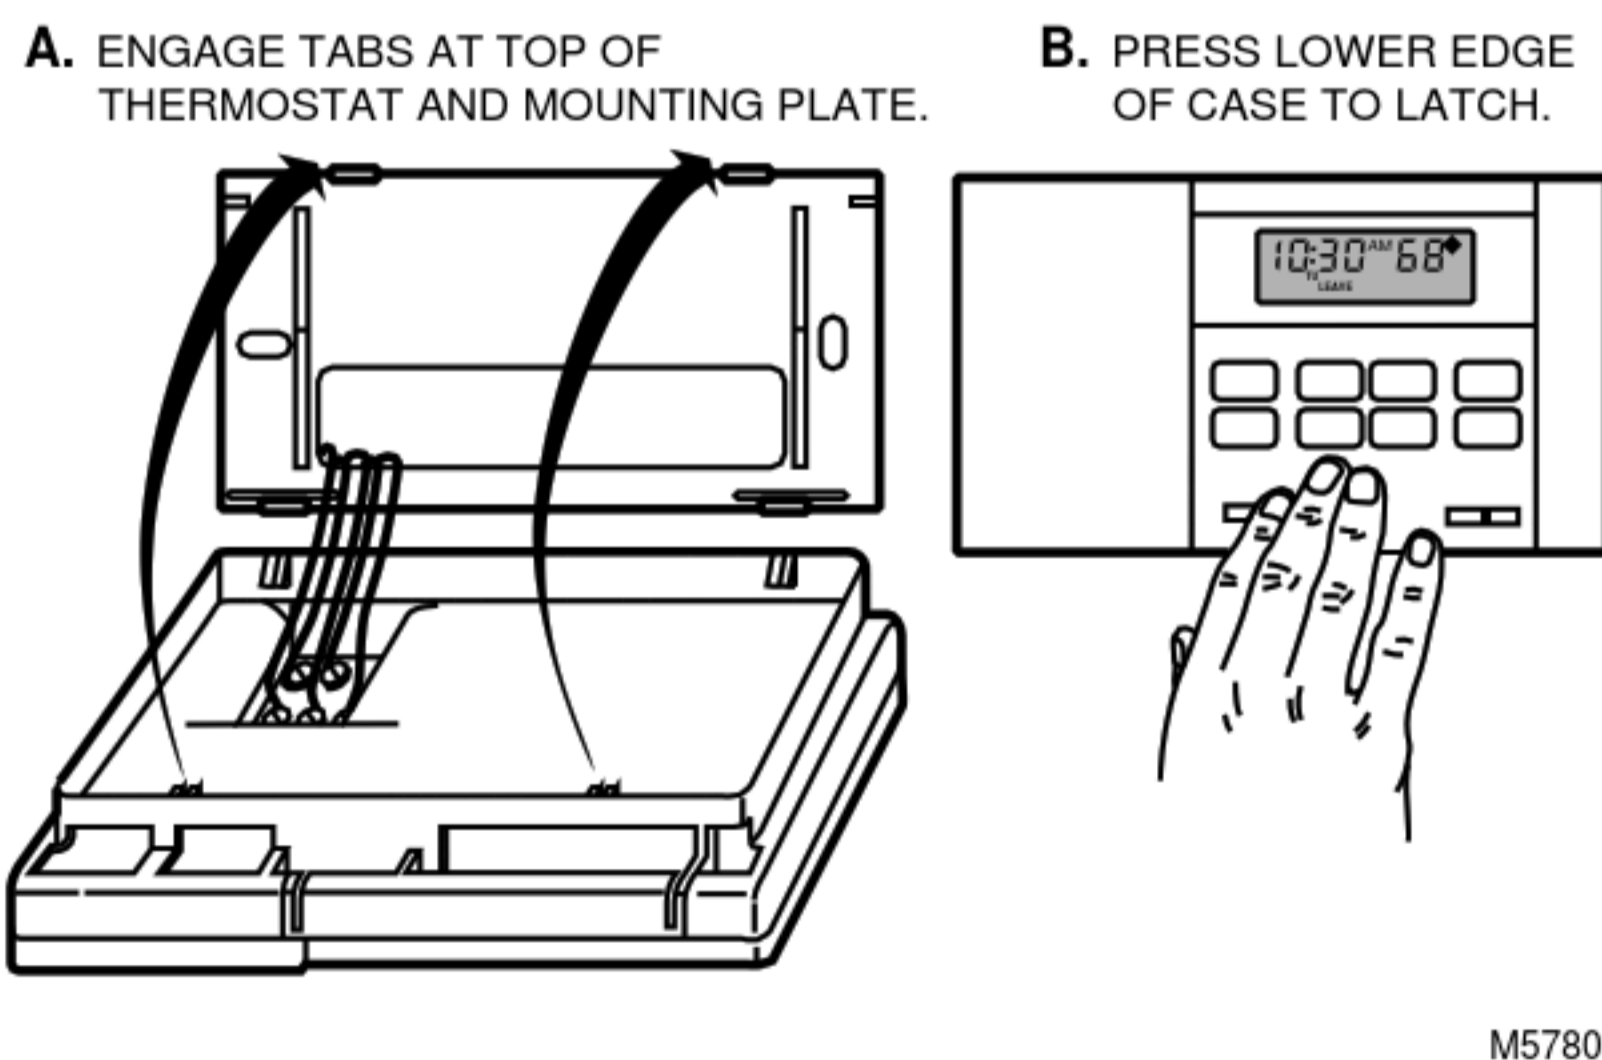

Fig. 12. Mounting thermostat on mounting plate.
1. Engage the tabs at the top of the thermostat and mounting plate. See Fig. 12.